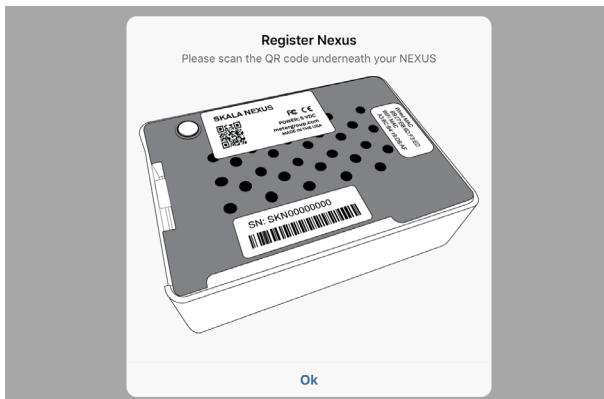

Figure 28 Register NEXUS window
4. Select **Ok** in the Register NEXUS popup window (Figure 28).